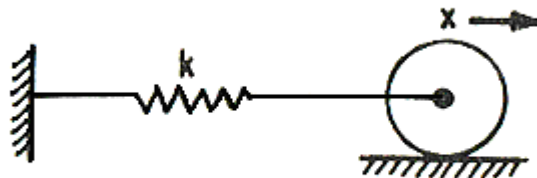

Figure 8:
6. (a) A circular cylinder of mass m and radius r is connected by a spring of stiffness K as shown in figure 8. If it is free to roll on the rough surface which is horizontal without slipping, find its natural frequency.